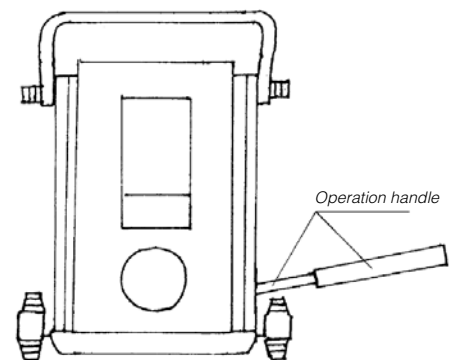

Figure 1
- 2.2 Insert operation handle into the socket and the piston. Refer to Figure 1. The piston rod is steadily by the up-and-down movement of the handle and a work is thus raised. It is so designed that the piston rod will stop rising when the required height is reached.